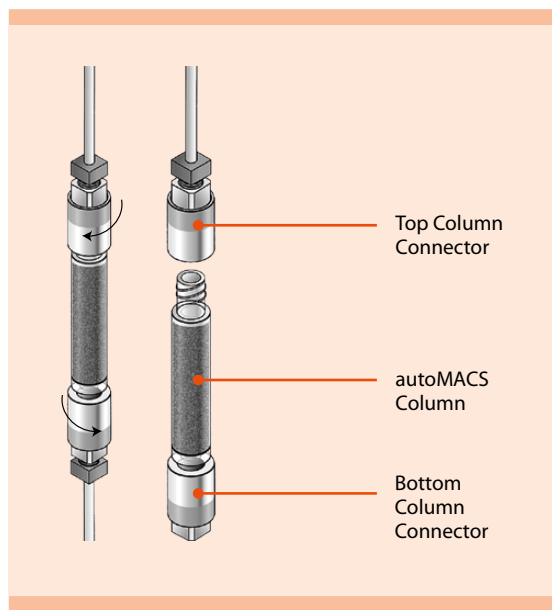

Figure 3.5: Exchange of autoMACS columns.
- 9 Hold the column substitute in one hand and gently unscrew the bottom column connector counter-clockwise. Unscrew the top column connector clockwise (see figure 3.5). Store the column substitutes for later usage. **Note:** Replace columns with column substitutes if the instrument is shut down for a longer period of time. See section 3.2.2 for details.